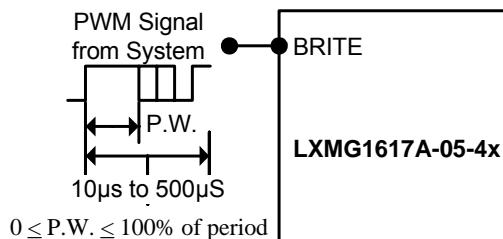

Figure 1A – PWM Brightness Control
- The brightness control may be a voltage output DAC or other voltage source, a digital pot or 500K manual pot. The inverter contains an internal 215K pull-up to 3V to bias the pot, if desired; add a resistor to set the lower threshold voltage above the absolute minimum dim level capability. A 3.3V Logic Level PWM signal from a microcontroller may also be used as shown in Figure 1A.